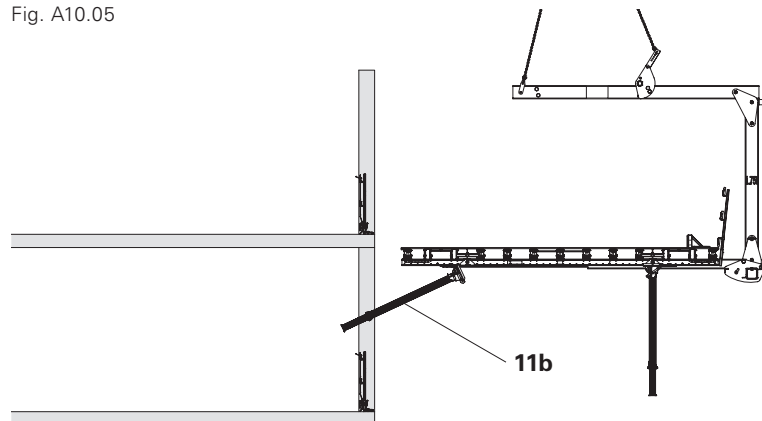

Fig. A10.06
5. Fold up the MULTIPROP MP (11b) and lift out slab table further. (Fig. A10.06)